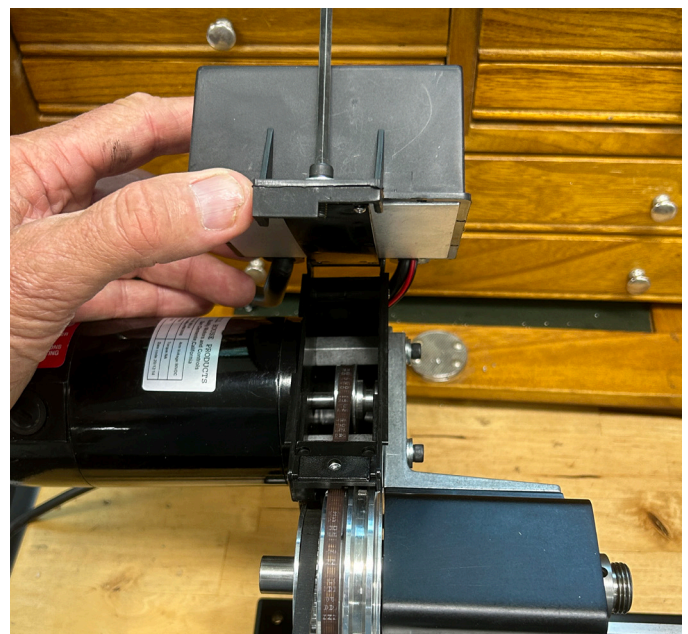

FIGURE 3
- B. Raise the speed control housing up to gain access to the motor bracket adjustment screws (see Figure 3).